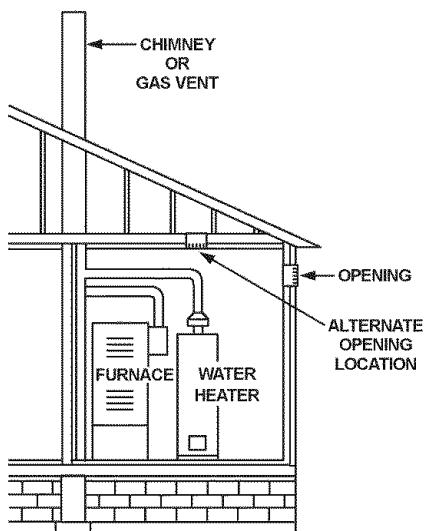

FIGURE 14.
- Alternatively a single permanent opening may be used when communicating directly with the outdoors, or with spaces that freely communicate with the outdoors. The opening shall have a minimum free area of 1 square inch per 3,000 BTU per hour (8.3 cm²/kW) of total input rating of all equipment in the enclosure. See Figure 14.